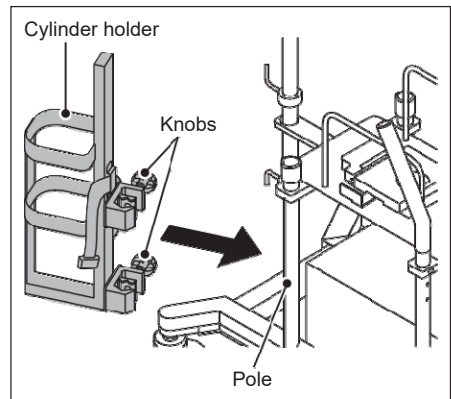

Figure 1-77
1. **Attach the cylinder holder to the rear side pole, and secure it with the knobs. (Figure 1-77)**